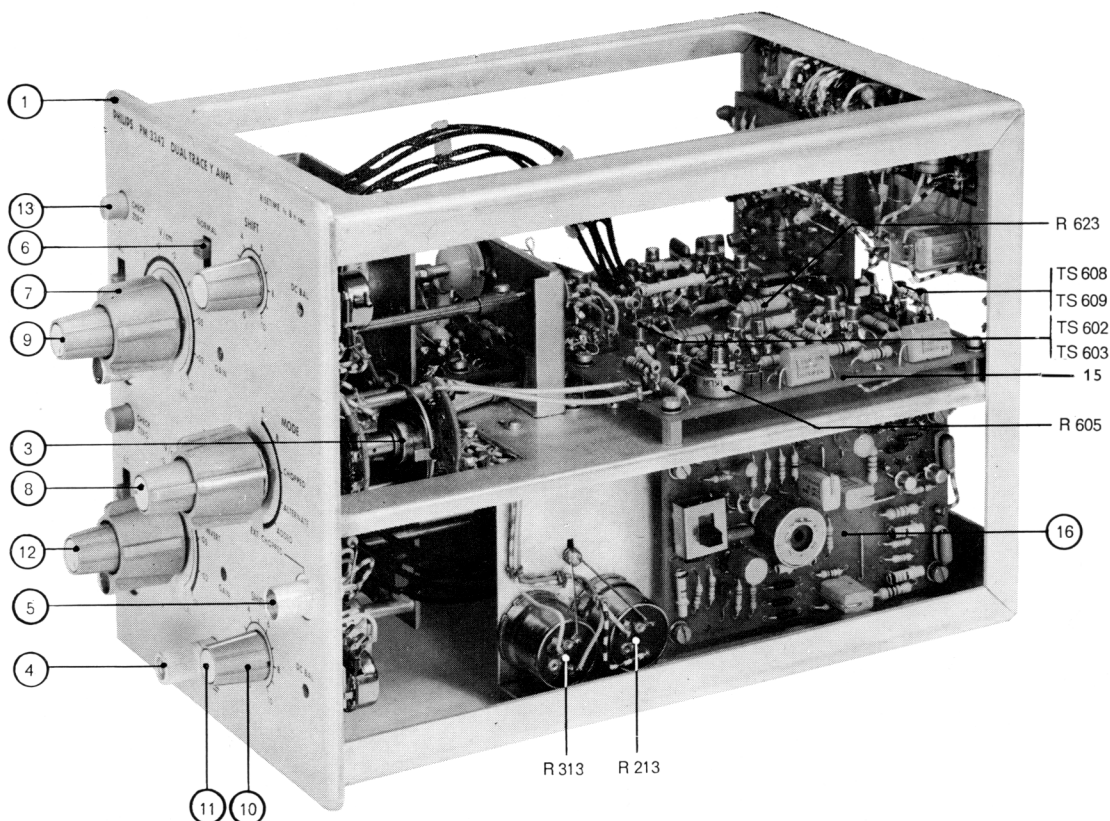

Fig. 6. Right-hand view
R213 (Fig. 6)
R313 (Fig. 6)
R605, R623 (Fig. 6)
- Short-circuit the input of the trigger amplifier by interconnecting the bases of transistors TS602 and TS 603 (See Fig. 6).
- Measure the voltage on the output of the amplifier between the emitters of transistors TS608 and TS609. (See Fig. 6).